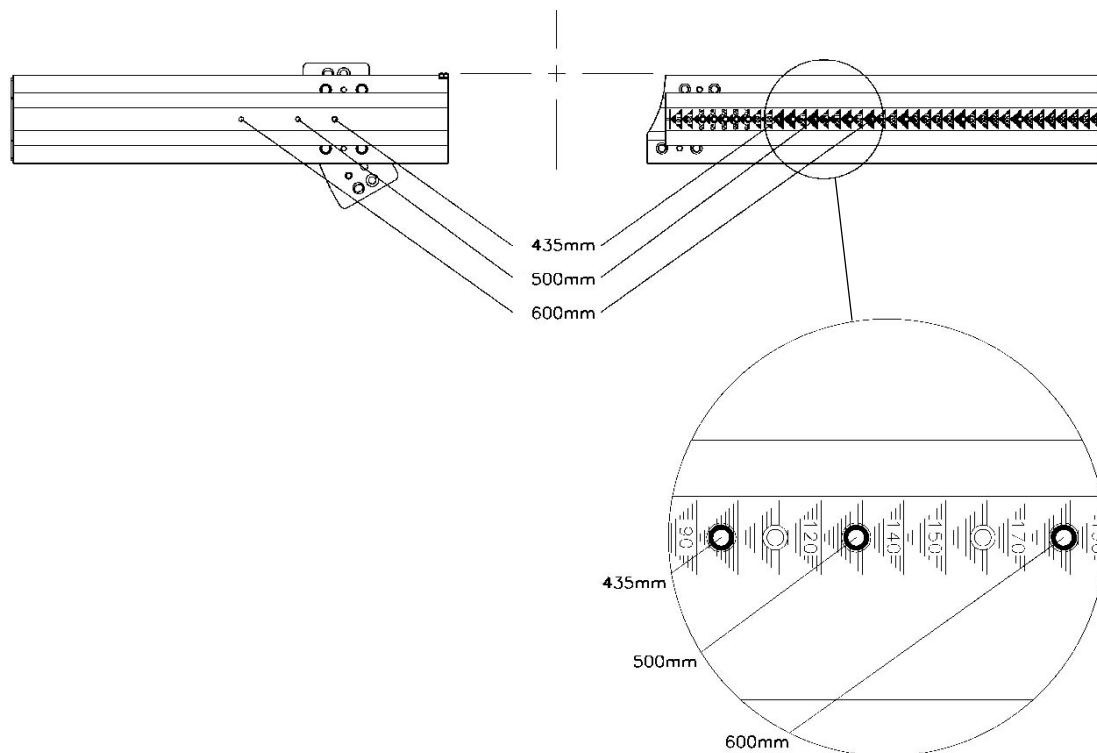

Figure 4.22 - Predefined measuring circle diameter pin locations
3. Use Figure 4.22 to set the predefined measuring circle on the theta and 2-theta tracks.